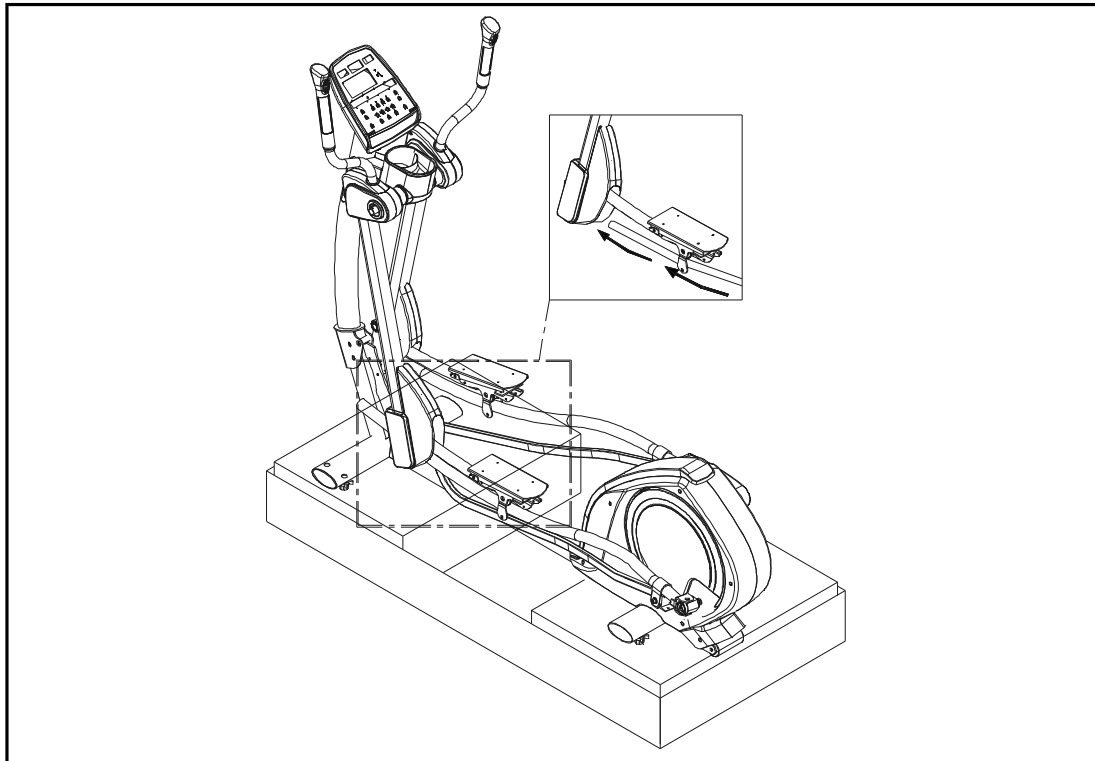

Fig.2
STEP 3. Then, raise the stride support Assembly ① and pedal carriage ②. Place the tip of the foot pad surface on the ground ③. Do this step on the other side of the unit as well.
STEP 5. Slip the Glide Rail into place under the Pedal Carriage and also on the roller on the stride support Assembly. (See Fig 2)